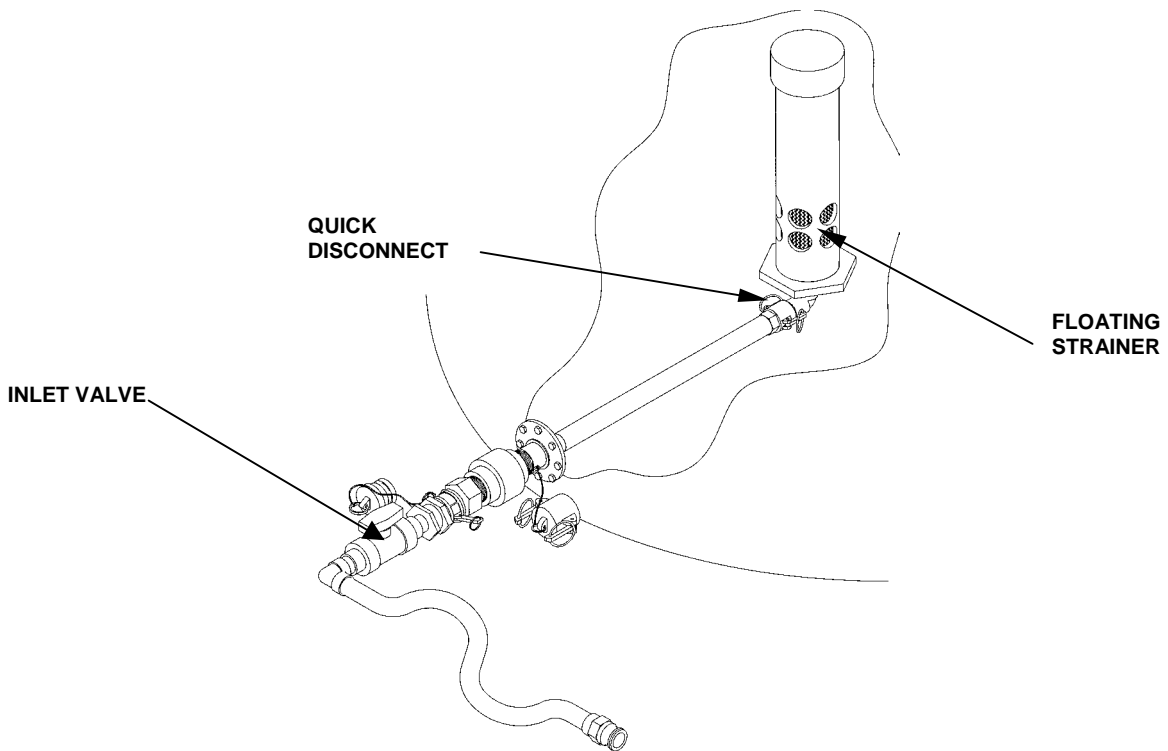

Figure 6. Settling Tank Strainer
15. Connect the floating strainer to the hose that is inside the tank. See Figure 6.